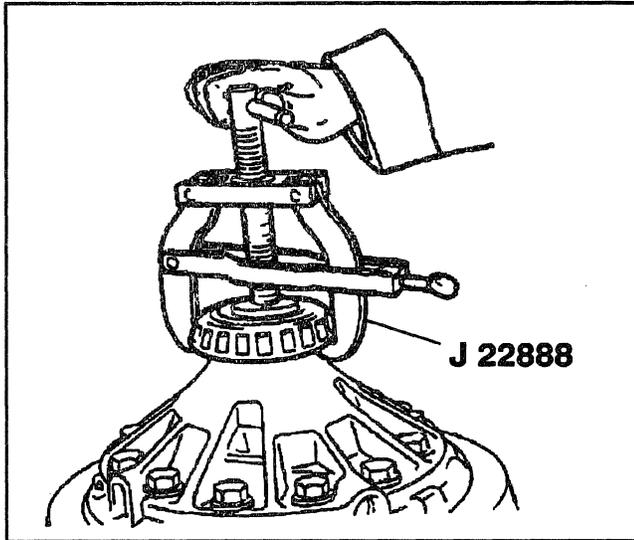

Figure 2—Removing the Differential Side Bearings
3. Axle shafts (47).
4. Adjusting nut lock bolts (22).
5. Adjusting nut lock (21).
- Loosen the adjusting nuts (19).
6. Bearing cap bolts (28) and washers (27).
7. Bearing caps (20).
8. Adjusting nuts (19) and bearing cups (18).
9. Differential case (34).
10. Bearings using J 22888-20 (Figure 2).
11. Ring gear bolts (36) and washers (35).